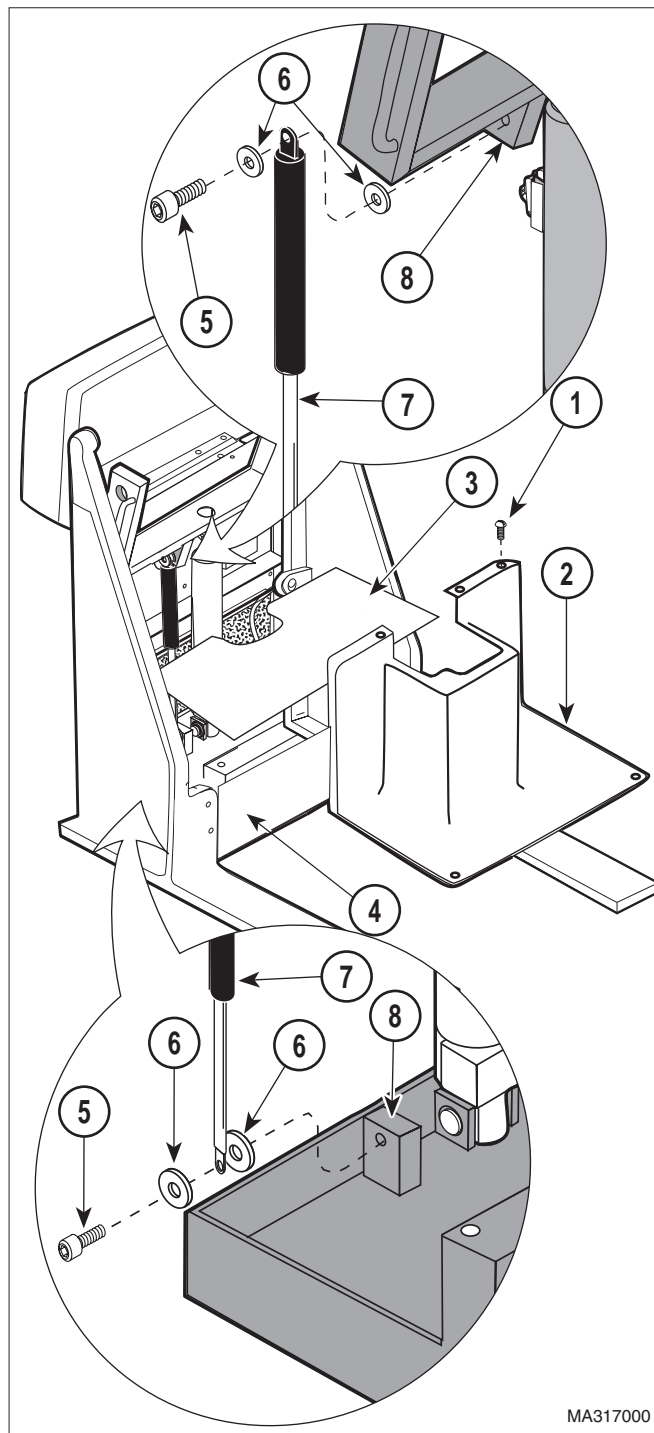

Figure 4-5. Gas Spring Removal / Installation
- (2) Unplug chair power cord from wall outlet.
- (3) Remove seven screws (1, Figure 4-5), outer shroud (2), and inner shroud (3) from base casting (4).